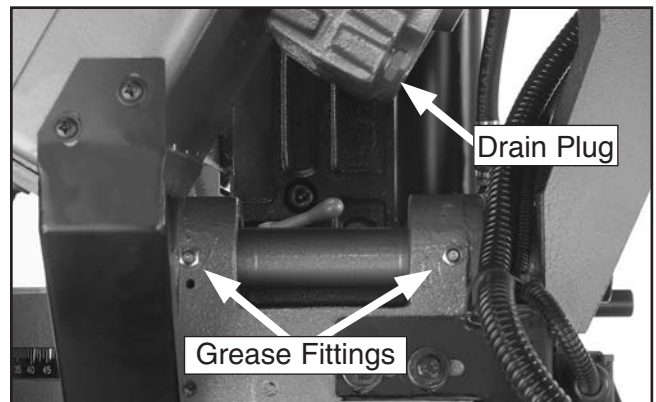

Figure 37. Lubrication points.
Before applying lubricant to any area, wipe the area clean to avoid contamination. Lubricate the vise leadscrew and the grease fittings at the pivot point shown in **Figure 37** with general purpose grease.
4. Drain the gearbox by removing the drain plug shown in **Figure 37**.